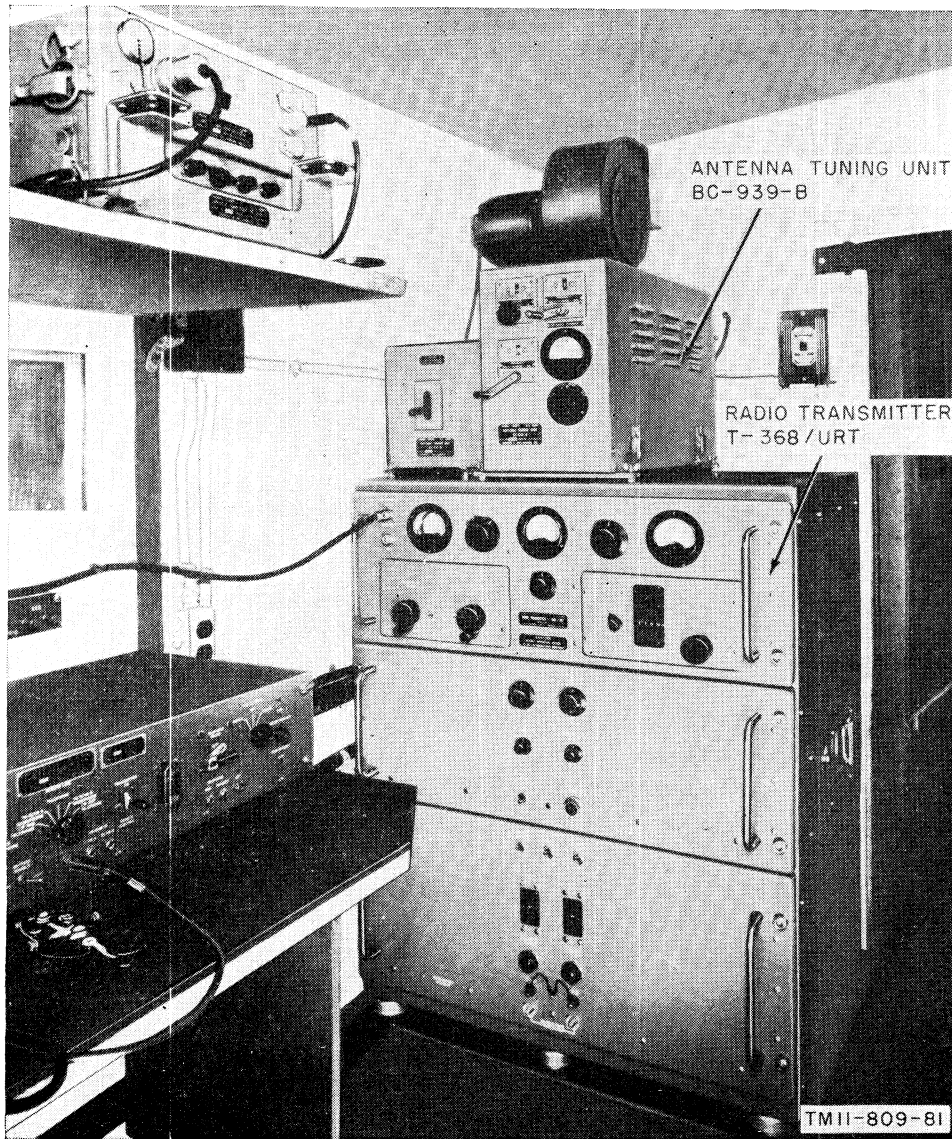
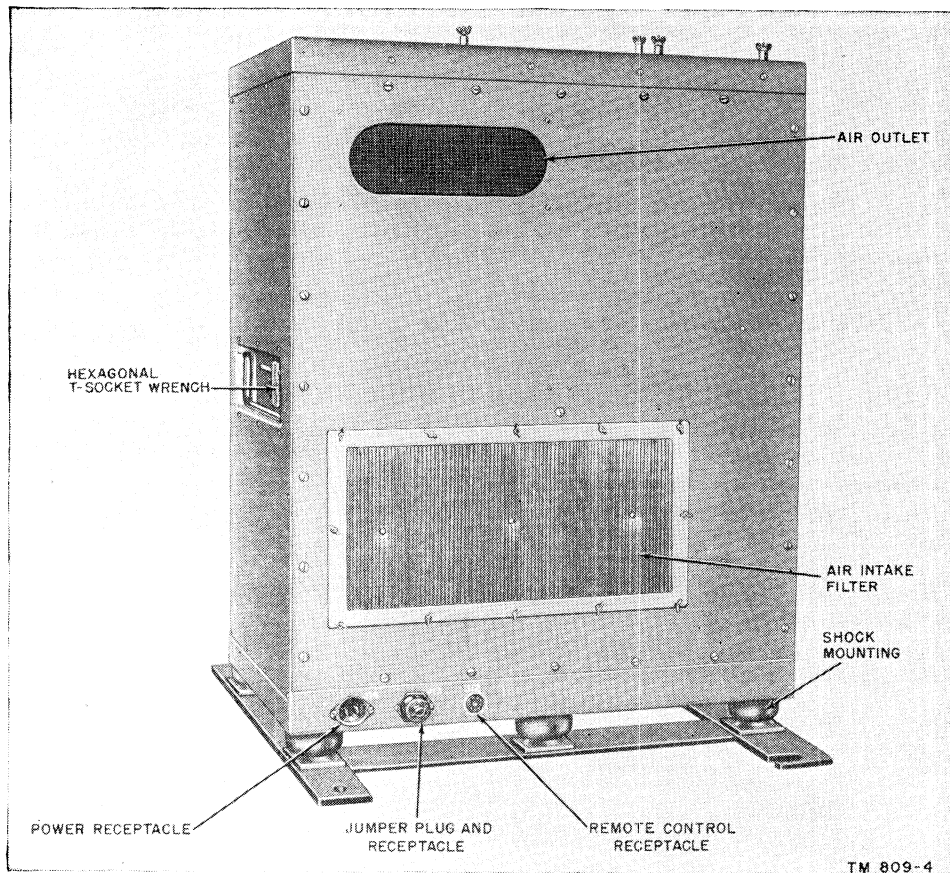
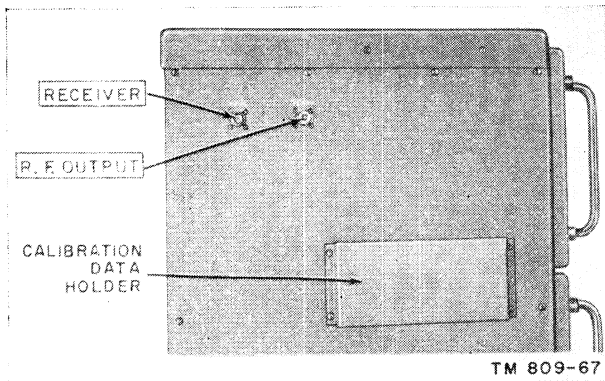

Figure 1. Radio Transmitter T-368/URT and Antenna Tuning Unit BC-939-B.
Figure 4. Radio Transmitter T-368/URT, rear view.
Figure 5. Housing, left side.
(fig. 1)
*e.* The housing (fig. 80) contains all the interlock switches of the equipment. Three receptacles are located on the rear of the housing (fig. 4). The power receptacle permits the application of ac power, the second receptacle J13 seats the jumper plug to permit high-voltage operation, and the third provides means for remote control operation. Two coaxial receptacles (fig. 5) located on the left side of the housing connect the transmitting antenna to the transmitter and to a receiver (when used) through an antenna changeover relay. The relay assembly, mounted on the upper left of the inside of the housing (fig. 80) contains two separate relays which are used for antenna changeover. A blower, located on the back panel, improves the ventilation of the equipment; air filters (fig. 4) clean the incoming air. A holder (fig. 5), mounted on the left side, stores the calibration charts used with the transmitter. Carrying handles for the transmitter are provided, one on each side; when not in use, these handles can be folded into the sides of the housing. A hexagonal T-socket wrench (fig. 4), provided for loosening and tightening the panel captive bolts, is mounted in the recess for the right side handle. At the top of the housing are two sets of four threaded studs with wing nuts for mounting a switching unit (used in Radio Set AN/GLQ-2) and an antenna tuning unit (fig. 1). A THERMAL RESET button on the top of the upper front section of the housing (fig. 80) permits manual resetting of the thermostat, which is mounted on the inside top of the housing. The housing base is provided with shock mounts (fig. 4); the equipment is secured to the surface on which it is resting by bolts (not
of the transmitter (fig. 5) and the input terminals located on the side of the tuning unit (fig. 87).